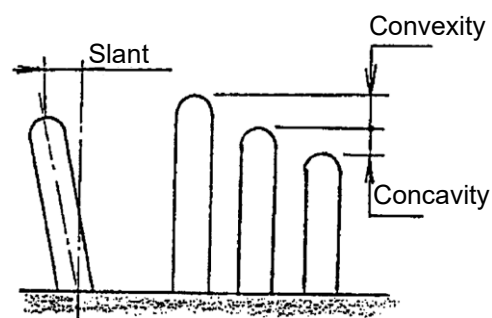

Figure 14.
- (5) Inspection of installed condition
- (a) For the pin connectors, verify the pin contacts from the mating side for slant and height (See Figure 14).